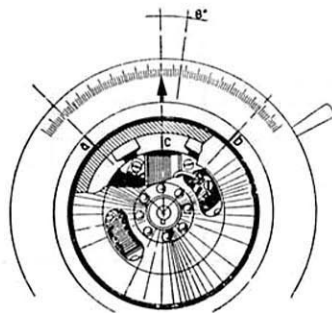

Fig. 77. Timing the stator.
1. Draw a line from the shaft axis to one end of the ignition coil lamination and make a mark ("a", Fig. 77) where the line intersects the rotor bracket. Follow the same procedure for the other end of the lamination and mark point "b" accordingly.